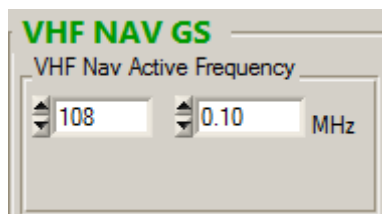

Figure 13 Tuning NAV Frequency
- 3) Connect a 108.100 MHz signal with 1 KHz 30% AM RF Level -108dBm from the signal generator to the NAV antenna port. Adjust the radio to Channel 108.100 MHz (Figure 13). Monitor SINAD of the NAV audio on the audio analyzer, reading should be more than 6dB.